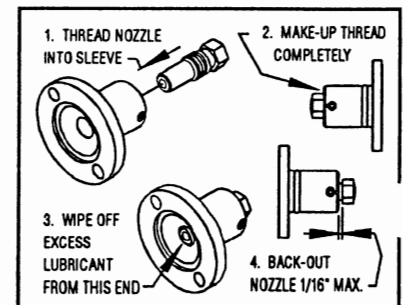

Figure 29. Nozzle installation
- As shown in Figure 29, thread Nozzle into end of Sleeve and make-up thread completely until nozzle Hex contacts Sleeve; wipe off excess lubricant from Opposite End of Nozzle then back-out Nozzle No more than 1/6" to prevent bending LLS shaft during sleeve/nozzle reassembly with LLS body.